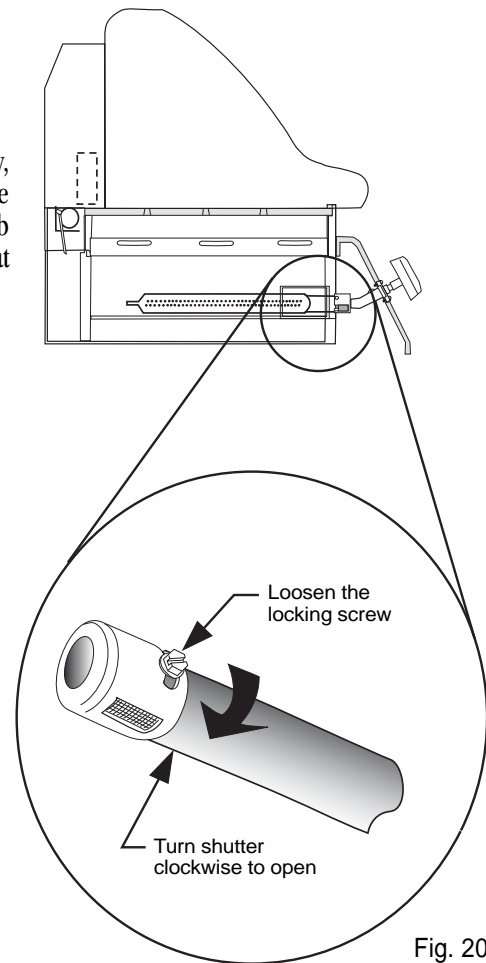

Fig. 20
- The shutters are accessible under the control panel at the front of the Grill (see Fig. 20).